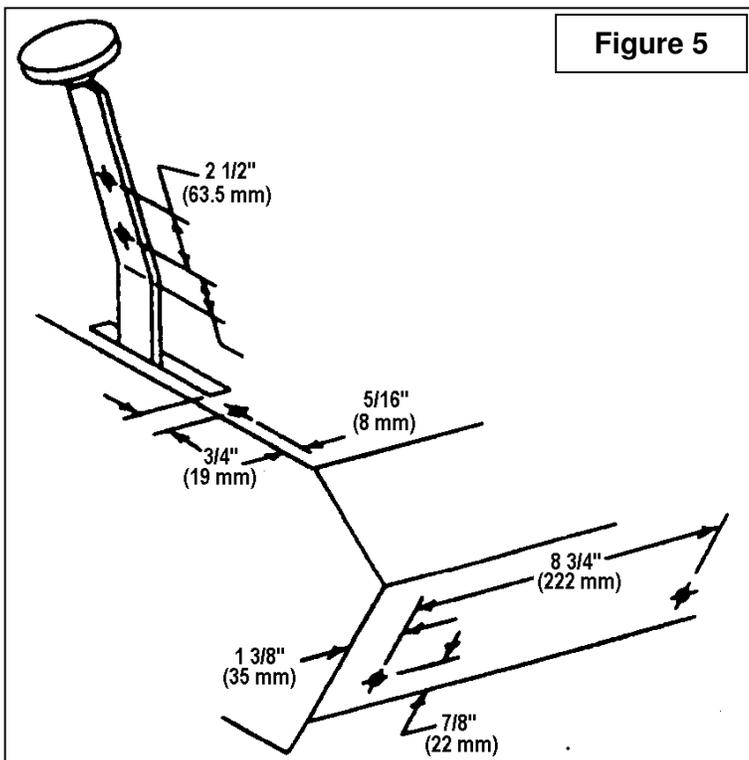

Figure 5
3. **Figure 5:** Drill five 13/64" (5 mm) dia. holes in the tractor: two in the forward speed control arm and three in the body as.